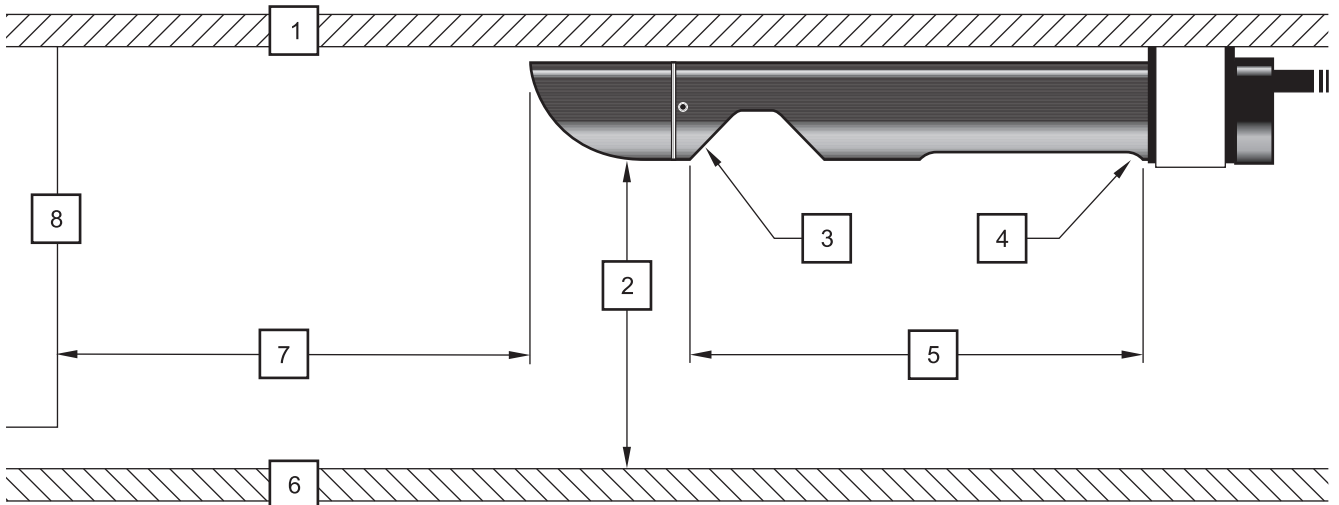

Figure 26 Side View of In-Pipe
- Mount the sensor 46 cm (18 in.) away from obstructions located in front of the in-pipe sensor to prevent inaccurate liquid level readings (Figure 26).